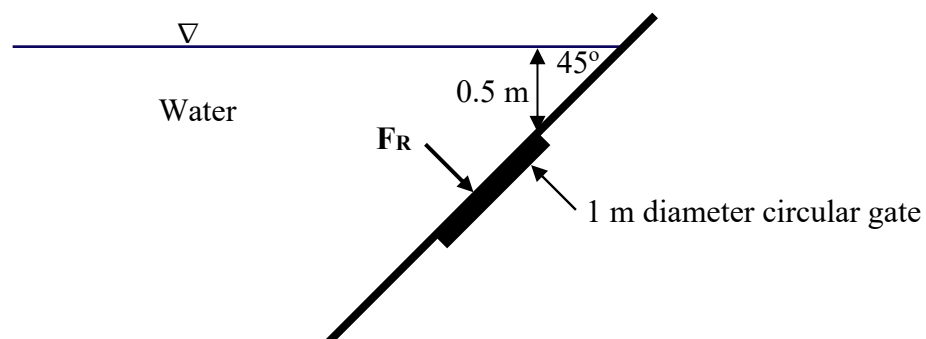

Figure Q10
- 10 What is the magnitude of the resultant hydrostatic thrust F_R acting on the 1 m diameter circular gate mounted on the side of a water tank in Figure Q10?